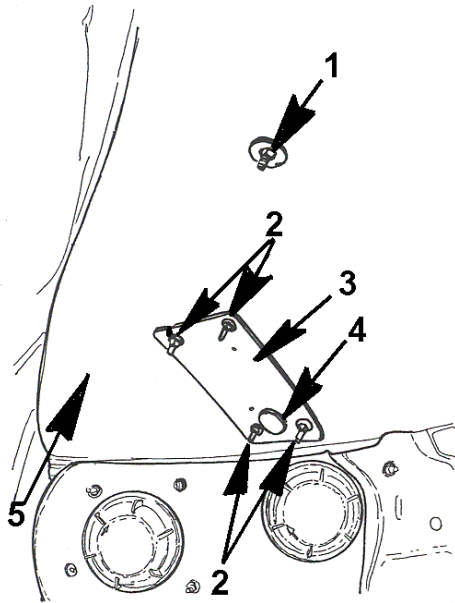

Figure 82 Fender Mounted Mirror Removal
2. Locate the lock nut and flat washer on the underside of the fender section. Secure the lock nut and flat washer and loosen (Figure 82, Item 2) the mounting bolts in the mounting bracket on the outside fender section.
3. Locate the lock nut and washer on the inside vertical section of the hood assembly. Loosen the mounting bolt in the lateral bracket base (Figure 82, Item 1). It would be advisable to have an assistant steady the mirror during the removal process and to prevent breakage if the mirror should fall.